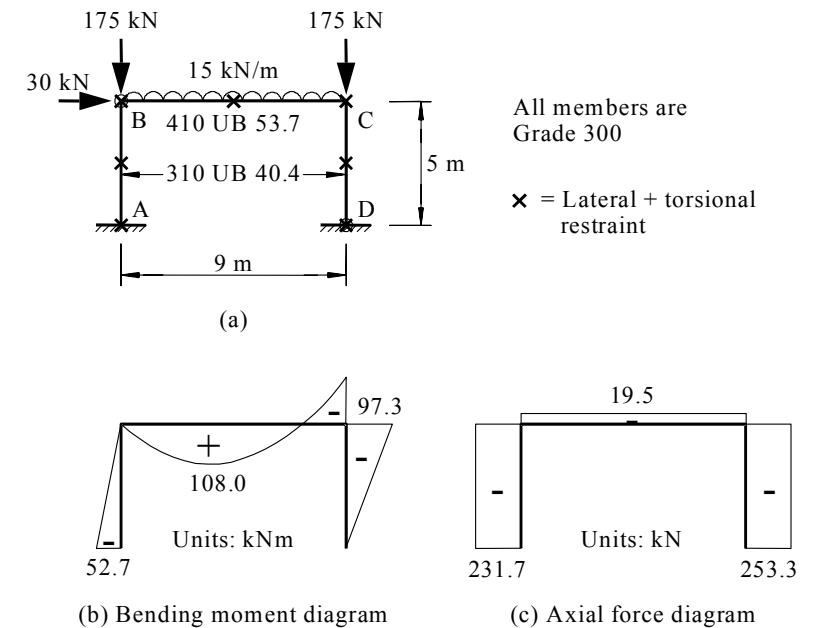

Figure 4
- b) A rectangular portal frame ABCD subjected to a design load combination is shown in Figure 4(a). All members are bent about their major (x) axis in the plane of the frame. The connection between the beam and the column at B is a flexible (pinned) connection, while that at C is a rigid connection. The support at A is fixed against translation and rotation and the support at D is pinned. The bending moment and axial force diagrams obtained by conducting a *first order elastic analysis* of the frame are shown in Figures 4(b) and 4(c), respectively.
Each member of the frame is braced by a lateral and torsional restraint at its ends and midpoint so that the beam effective length (L_e) and out of plane column effective lengths (L_{ey}) of each segment is equal to half the actual member length ($L_e = L_{ey} = 0.5L$). The lateral and torsional restraints are indicated in Figure 4(a).